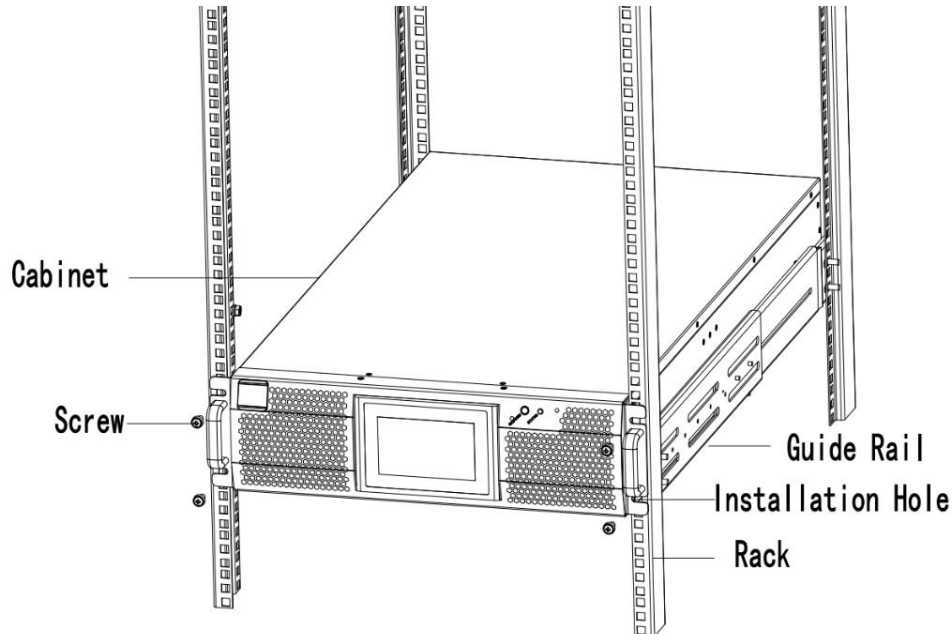

Figure 3-3 Rack Mounted Installation
(1) Install the guide rail
(2) Put the UPS and battery cabinet on the guide rail, fix the units to the service rack, shown as Figure 3-3.